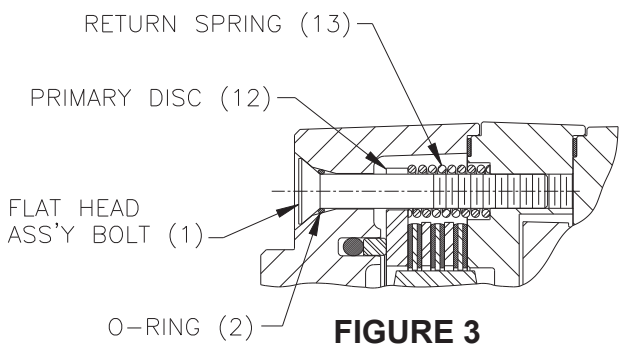

FIGURE 3
6. Install retaining ring (4) on spline shaft assembly (10).
7. Install o-ring (8) and piston (9) into cover (7).
8. Install back-up rings (21 & 23) on piston (20) toward spring pockets.
9. Install o-rings (22 & 24) on piston (20). Be sure o-rings are flat and all twists removed. **NOTE: Be careful not to scratch or mar piston.**
10. Lubricate piston (20) with clean type fluid used in the system. Carefully press piston into pressure plate (25). Be sure piston is oriented such that threaded holes in piston are in alignment with through holes in spring plate (18) when installed.
11. Install springs (19) according to spring pattern and color recorded during disassembly. Different colored springs must be positioned in a symmetrical pattern. Contact ZF Off-Highway Solutions Minnesota Inc. if you have questions regarding spring pattern.
12. Affix case gaskets (17) to pressure plate (25) and spring plate (18).
13. Place unit on a press. Using fixture, depress and install four socket head assembly bolts (16). Apply two drops of Loctite #242 to threads and torque bolts 47.5-54.2 N·m (35-40 lb·ft). A suitable holding fixture is useful to hold brake in position.
14. Install stator discs (15) and rotor discs (14) beginning with a rotor disc (14) and alternate with stator disc (15).
15. Place return springs (13) in the counter bores in spring plate (18).
16. Properly align primary disc (12) over the return springs (13) and install two flat head assembly bolts (1) through return springs (13) and hand tighten into spring plate (18). Refer to Figure 3 for proper spring location and stack arrangement.
17. Using a suitable clamping fixture or hydraulic press, partially depress primary disc (12) to within approximately 3.2 mm (0.125 in) of top rotor disc (14).
18. Apply two drops of Loctite #242 to threads of shoulder bolts (11). Pressurize brake release port, approximately 27.6 bar (400 PSI), align discs and partially screw in four socket head shoulder bolts (11). Inspect for free movement of stack.
19. Fully depress primary disc (12) against lining stack. Torque shoulder bolts (11) to 20.3-24.4 N·m (15-18 lb·ft). Release pressure and remove flat head assembly bolts (1) from brake assembly.
20. Supporting cover (7) with output shaft end facing downward, install brake using flat head assembly bolts (1) and o-rings (2). Apply two drops of Loctite #242 to threads and torque bolts 33.9-40.7 N·m (25-30 lb·ft).